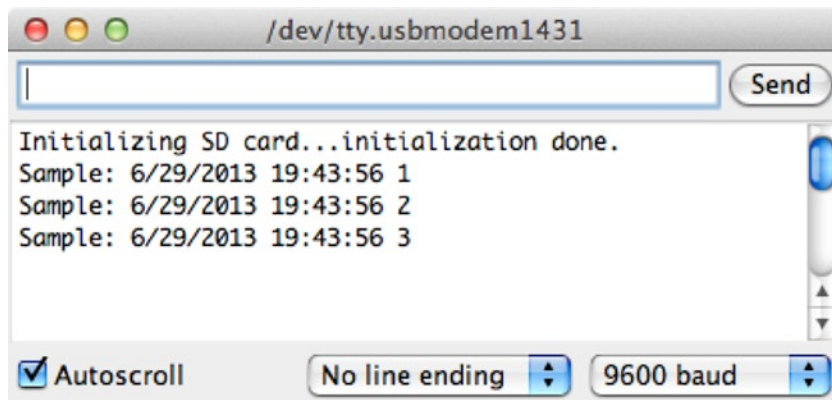

Figure 5-7. Sample output for the SD card sketch
To test the sketch, be sure the code compiles and you have your hardware set up correctly. Once you have a sketch that compiles, upload it to your Arduino and launch a serial monitor. Figure 5-7 shows the expected output.
■ **Note** The first time you run the sketch, you may see a message about initializing the SD card and creating the file. This is normal. Subsequent runs (restarts of the Arduino) will show the output like that in Figure 5-7.